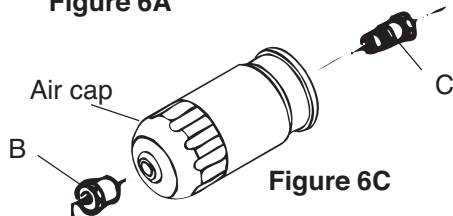

Figure 6C
2. Screw out the spray tip (B) using the tip removal tool and remove diffuser (C), figure 6C.